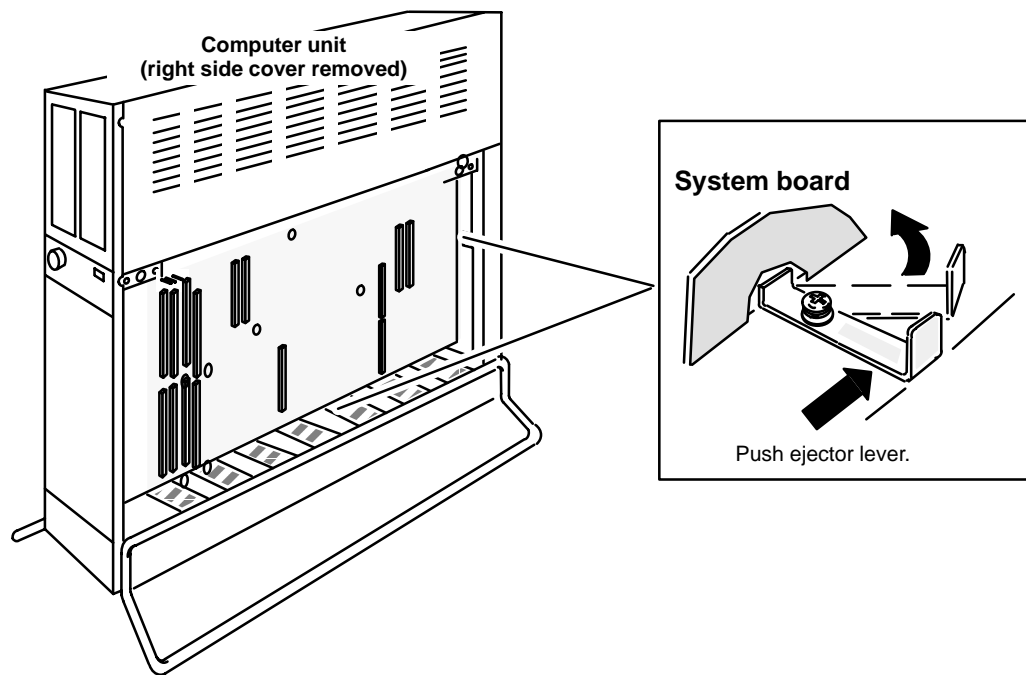

Figure 10-5 Releasing the System Board from the VME Backplane
8. Push the two ejector levers to the right as shown in Figure 10-5 to disconnect the system board from the VME connectors behind it.